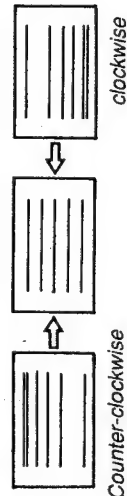

Fig. 29-2.
3. Adjust V. LIN BALANCE by turning DA board RV20 as shown in Fig. 29-2.